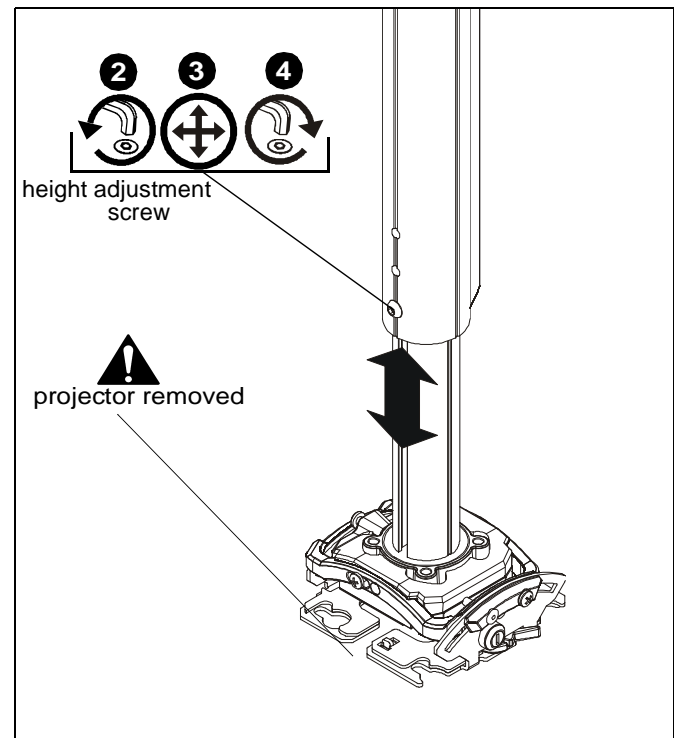

Figure 9
2. Loosen height adjustment screw. (See Figure 9)
3. While supporting the weight of the projector mount, adjust height as desired. (See Figure 9)
4. Tighten height adjustment screw. (See Figure 9)